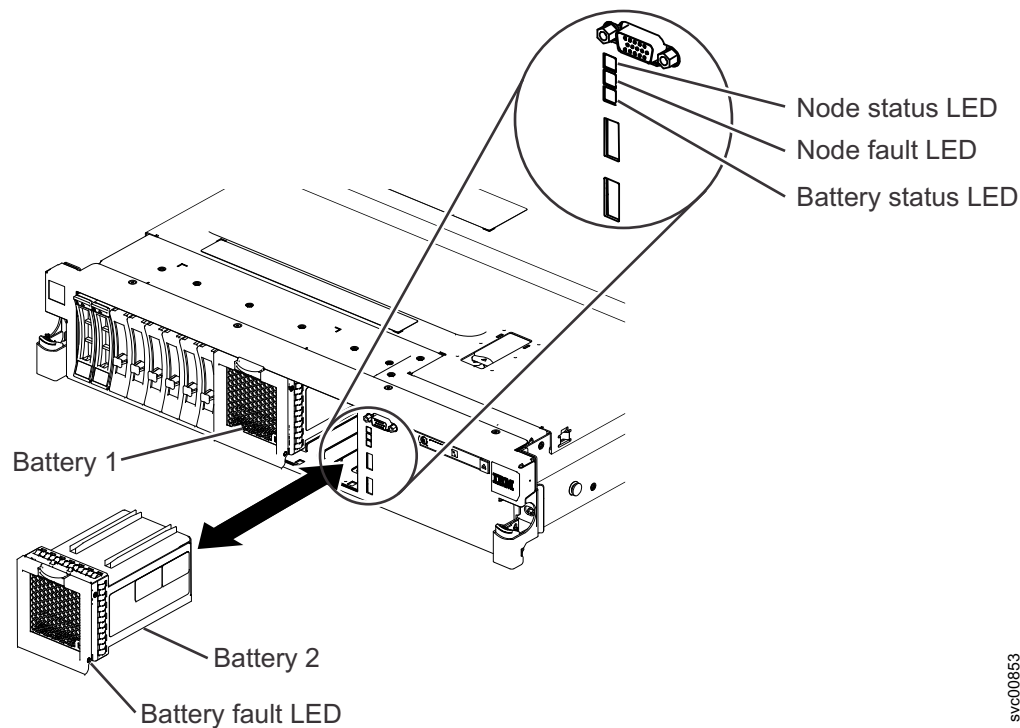

Figure 178. Removing the battery in the SAN Volume Controller 2145-DH8 node
3. Gently pull the battery assembly out of the battery slot, as shown in Figure 178.